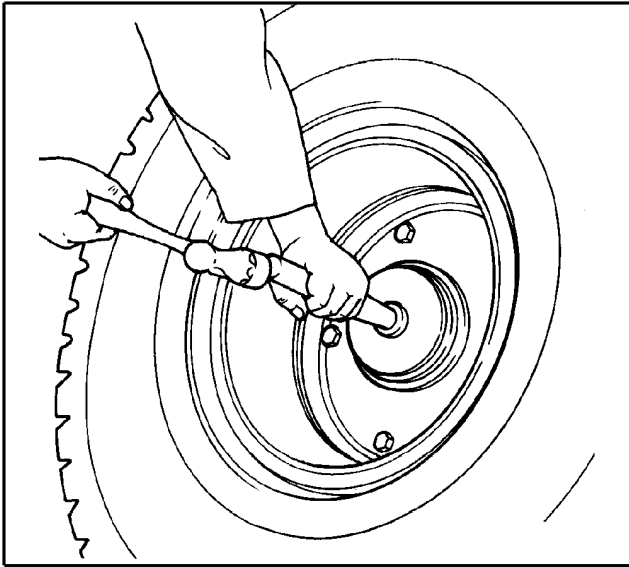

Figure 29 Seating Seal in Hub Bore
5. Hold tool handle straight and firmly and strike tool handle until the sound of impact changes when seal is seated (Figure 29). Check seal to be sure it is uniformly seated but not crushed. Also check bearing for free movement. Remove excess sealant.